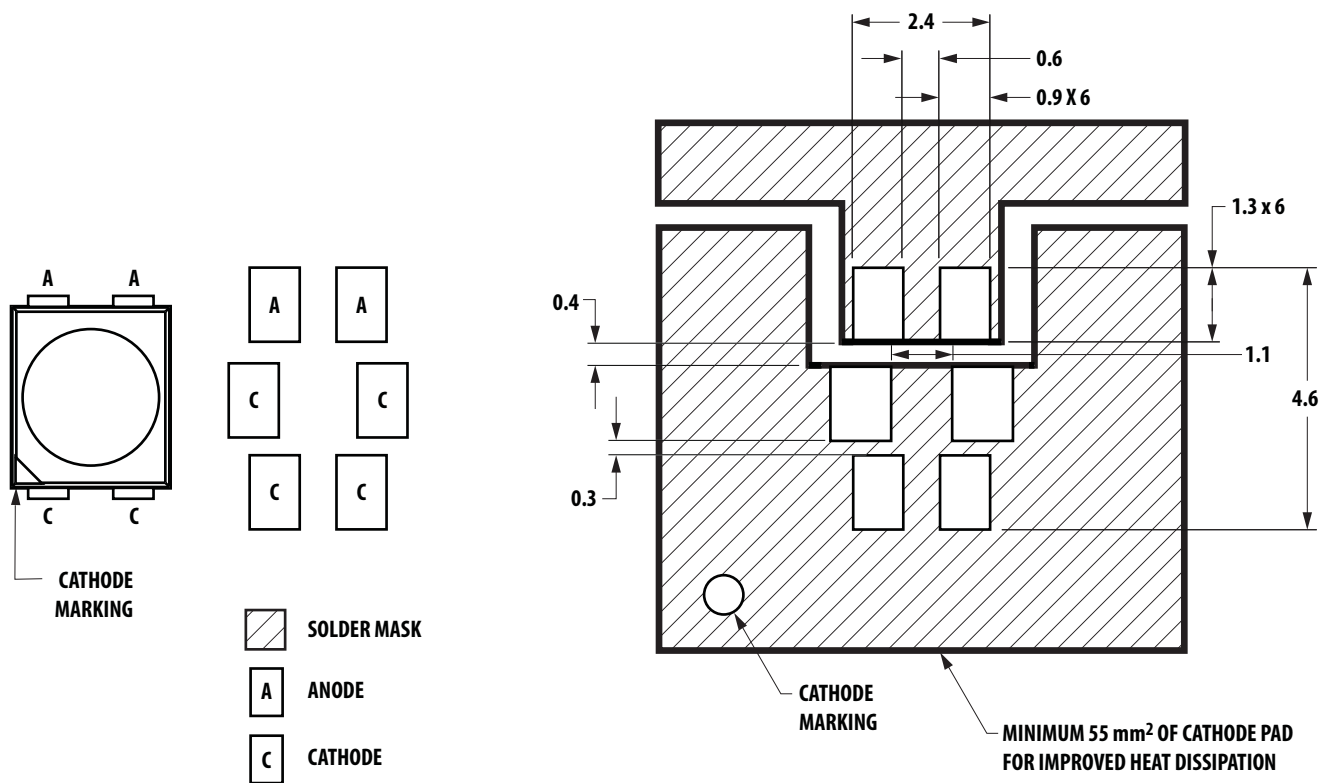

Figure 13. Recommended Soldering Pad Pattern
2. Lead Polarity as shown in Figure 13.